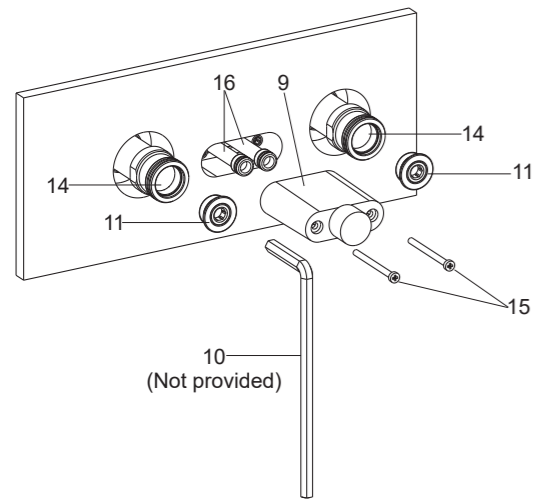

Fig. 5
Cut off the protectors(8) beyond the wall after the wall is finished. As **Fig. 5** shown, uninstall and discard the plugs(11) from the connections(14) with 8mm hex wrench(10, not provided). Remove the screws(15) from the protector(9) with screwdriver(not provided) and pull it out. Check whether the O-rings on the connections(14) and showerhead tubes(16) are intact.